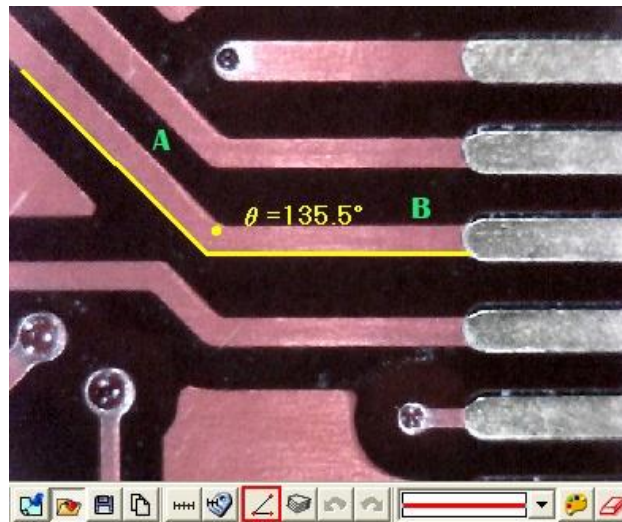

Fig 5-70 3 Points Angle
- (1) 3 Points Angle: Measure the angle on the object and use . In Fig. 5-70, it can see an angle on the object, draw a line and stop at the corner of angle, and then draw the other line from the angle; the angle can be automatically calculated. A dot shows the measured angle, it is  $135.5^\circ$ .